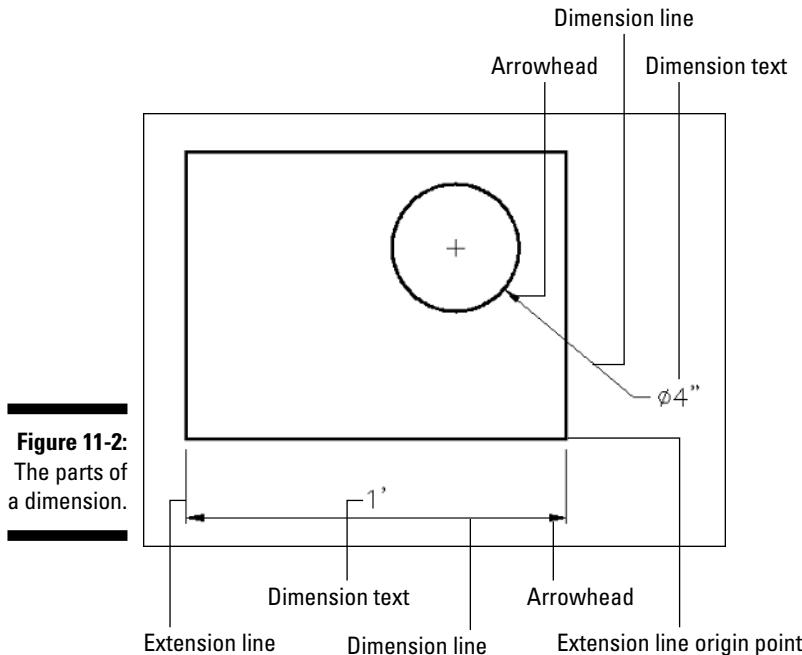
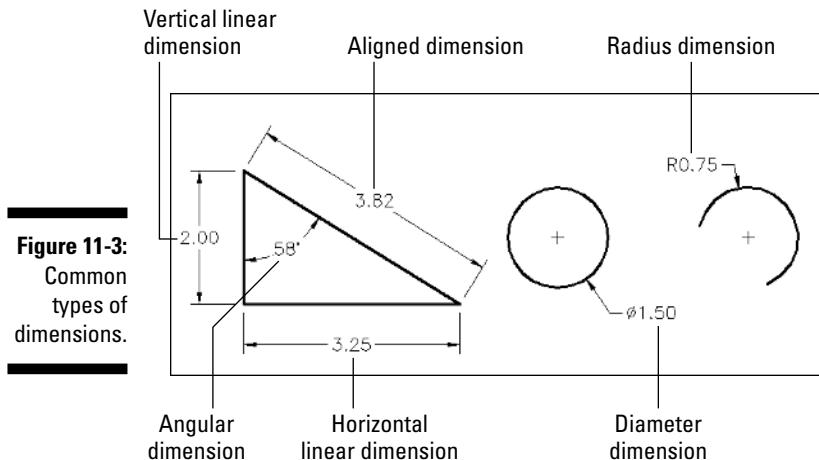

Figure 11-2:
Figure 11-3:
AutoCAD uses the names shown in Figure 11-2 and described in the following list to refer to the parts of each dimension:
- ✓ **Dimension lines:** In dimensions that indicate length or distance, the dimension lines go from the dimension text outward, either horizontally, vertically, or parallel to the object being measured, to indicate the extent of the dimensioned distance. (For other dimension types — for example, the ones shown in Figure 11-3 — the dimension line simply points at the object being dimensioned.) AutoCAD’s default dimension style settings center the dimension text vertically and horizontally on the dimension lines (see Figure 11-2), but you can change those settings to cause the text to appear in a different location — riding above an unbroken dimension line as shown in Figure 11-1, for example. See the section “Adjusting style settings,” later in this chapter, for instructions.
- ✓ **Dimension arrowheads:** The dimension arrowheads appear at the ends of the dimension lines and clarify the extent of the dimensioned length. AutoCAD’s default arrowhead style is the closed, filled type shown in Figure 11-2, but you can choose other symbols, such as tick marks, to indicate the ends of the dimension lines. (Don’t get ticked off, but AutoCAD calls the line ending an *arrowhead* even when, as in the case of a tick mark, it doesn’t look like an arrow.)
AutoCAD provides several types of dimensions and commands for drawing them. Figure 11-3 shows the most common types, and the following list describes them:
- ✓ **Radial dimensions:** A *radius* dimension calls out the radius of a circle or arc, and a *diameter* dimension calls out the diameter of a circle or arc. You can position the dimension text inside or outside the curve, as shown in Figure 11-3. If you position the text outside the curve, AutoCAD (by default) draws a little cross at the center of the circle or arc.